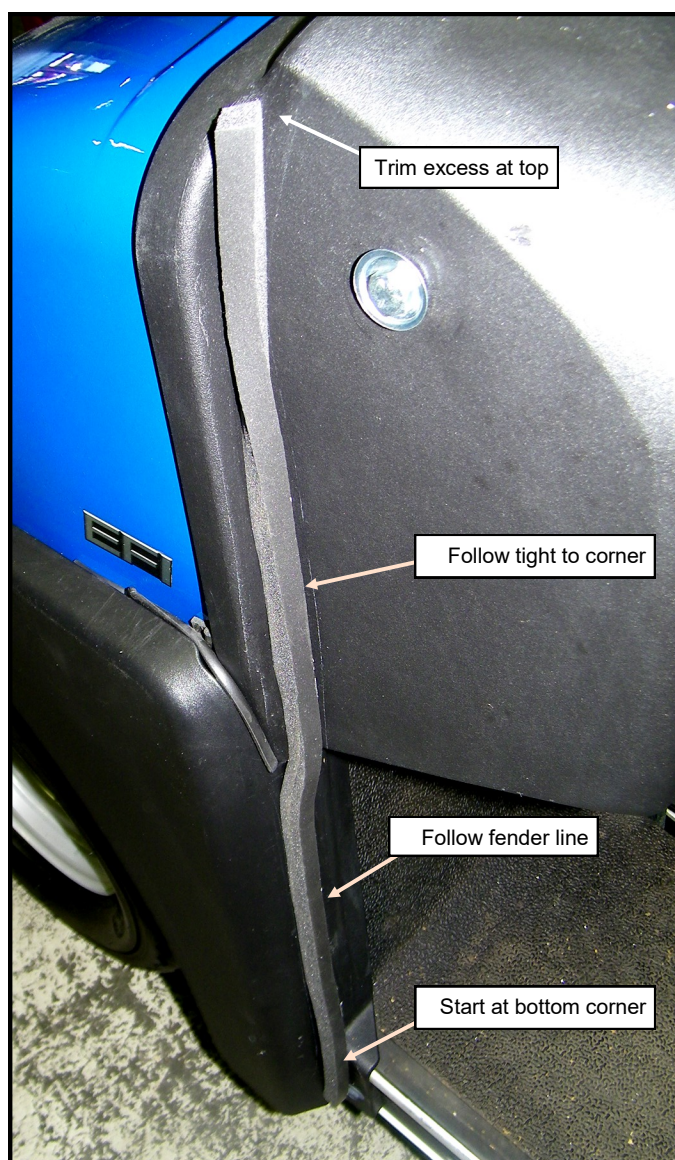

Figure 1.7: Dashboard Side Rubber
- 1.7 Apply one thick foam strip along the front of the foot well and beside the dashboard (**Figure 1.7**). Start at the bottom corner and work up. Trim any excess at the upper corner flush to the dashboard.